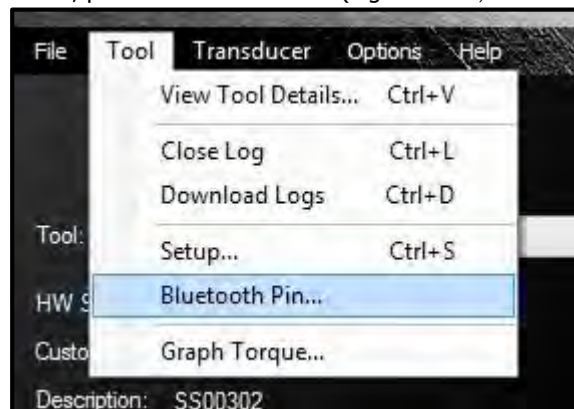

Figure 5.8-1: Bluetooth Pin Button
2. In the Tool Tab, press “Bluetooth Pin” (Figure 5.8-1).